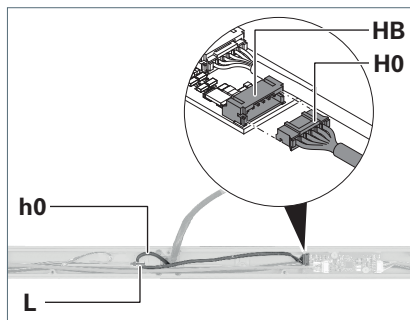

Fig. 8: Connecting the control cable.
1. Lay the control cable **h0** from the column in a loop into the crossbar, see Fig. 8.